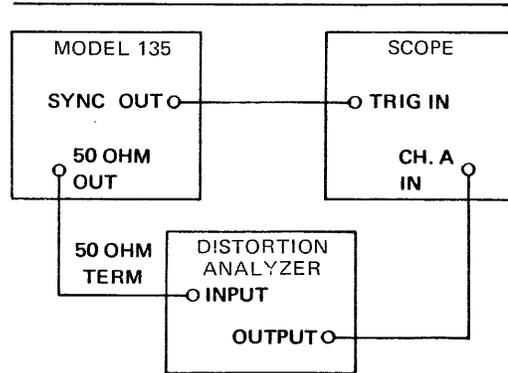

Figure 4-2. Distortion Analysis Test Setup
- Connect the unit, distortion analyzer, and oscilloscope as shown in Figure 4-2.